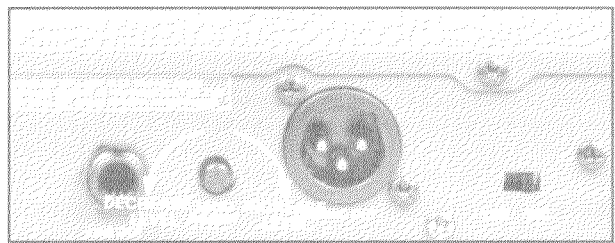

Figure 3 - Adjust Audio Output Level, Rear Panel
- 6) **Turn the "AUDIO ADJ" control on the receiver rear panel to the "2:00" position (see Figure 3). Begin with the control in this position;** after you have adjusted the transmitter level, you may need to readjust the "AUDIO ADJ" control.